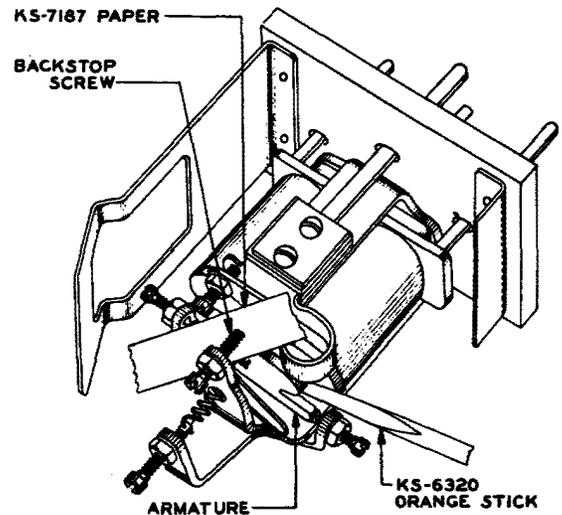

**Fig. 50 – Method of Cleaning Pole-piece Screws on 206-, 209-, 215-, 227-, 228-, 231-, 239-, and 280-type Relays**
**7.09** To remove metallic particles from the pole-piece screws, use a tool made out of a piece of thin stiff metal (preferably nonmagnetic) over which is wrapped a layer of friction tape with the stickier side toward the blade. Place the taped portion of the tool between the pole-piece screw and the armature. Using the No. 340 adjusting key, press the armature against the taped portion of the cleaning tool, as shown in Fig. 50, so as to cause any particles present to adhere to the tape. Do not rub the tape over the screw and armature as this tends to leave a residue from the tape on these parts. Do not use the tape after it has lost its tackiness.